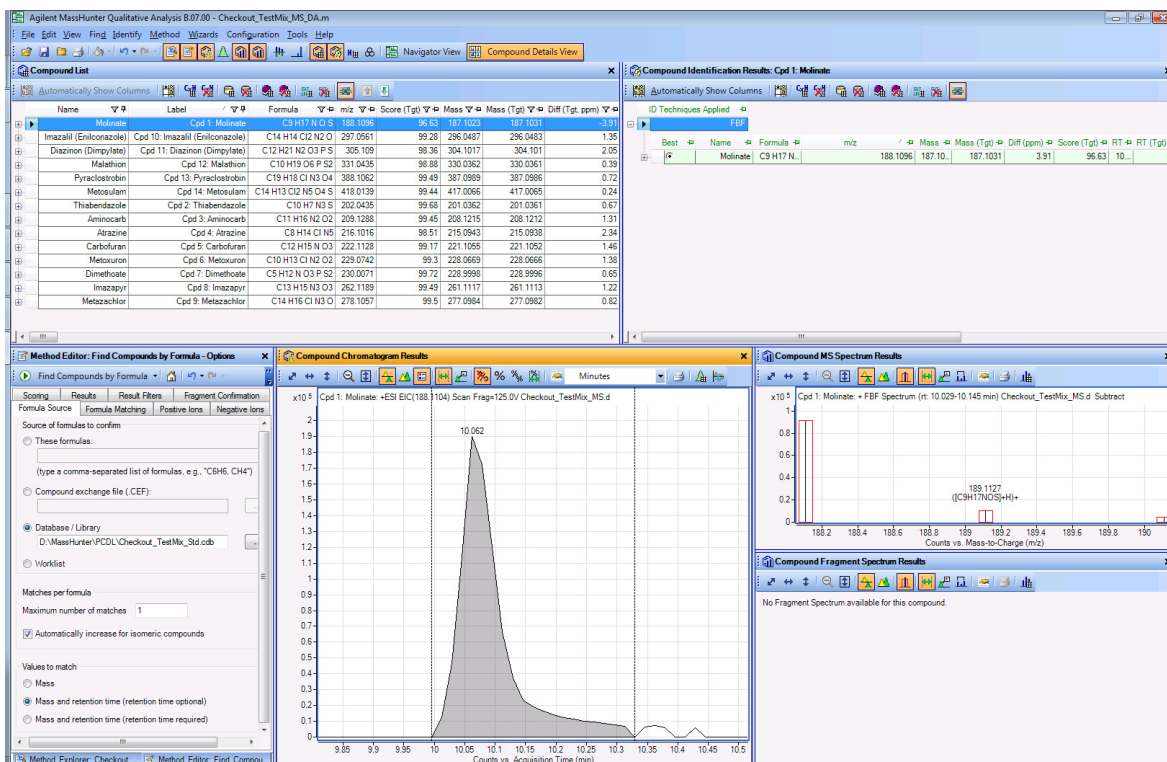

Figure 5 Compound Details view.
- a Click **Compound Details View** to switch views. See Figure 5.